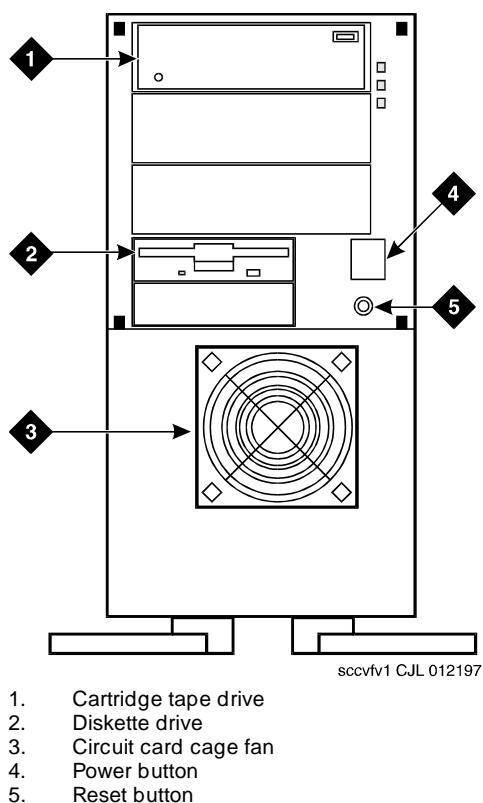

Figure 3-3. Front View of the MAP/5P
Cartridge tapes provide for the storage of information used by the Lucent INTUITY system. The MAP/5P reads information from and writes information to cartridge tapes through the tape drive. The tape drive is located in Bay 1 (Figure 3-3).
1. Locate the tape drive on the front of the MAP/5P (Figure 3-3).
1. Locate the diskette drive on the front of the MAP/5P (Figure 3-3).